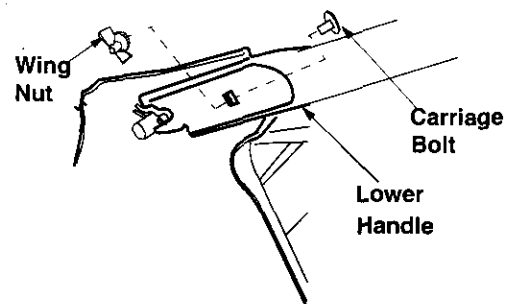

Figure 3
- Remove carriage bolt and wing nut from the lower handle. See Figure 3. Repeat on the other side.
- Reinsert carriage bolt in the upper hole of the handle bracket and the lower handle as shown in Figure 3.